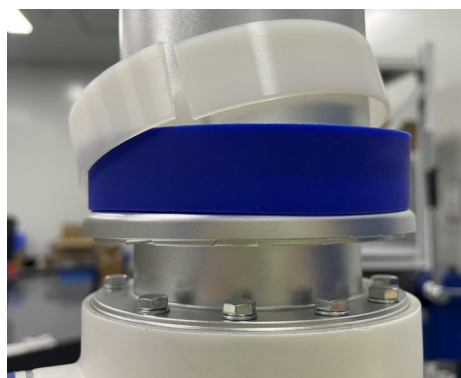

Figure 3-11 Remove the upper arm rubber ring and supporting ring
- Gently remove the rubber ring and hang it around the upper arm. Then remove the supporting ring as shown in Figure 3-11: